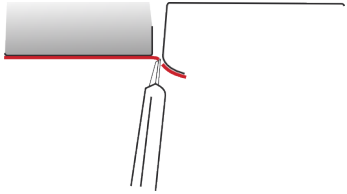

Figure 33
- › After the cut, 2 to 3 mm of the film (1 to 1½ in.) should be left over the edge of the vehicle parts. (FIG. 33)